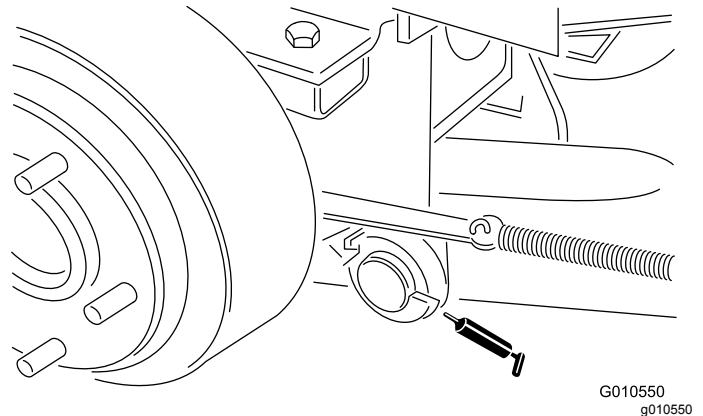

Figure 22
- Lift arm pivots, rear (2) (Figure 22)